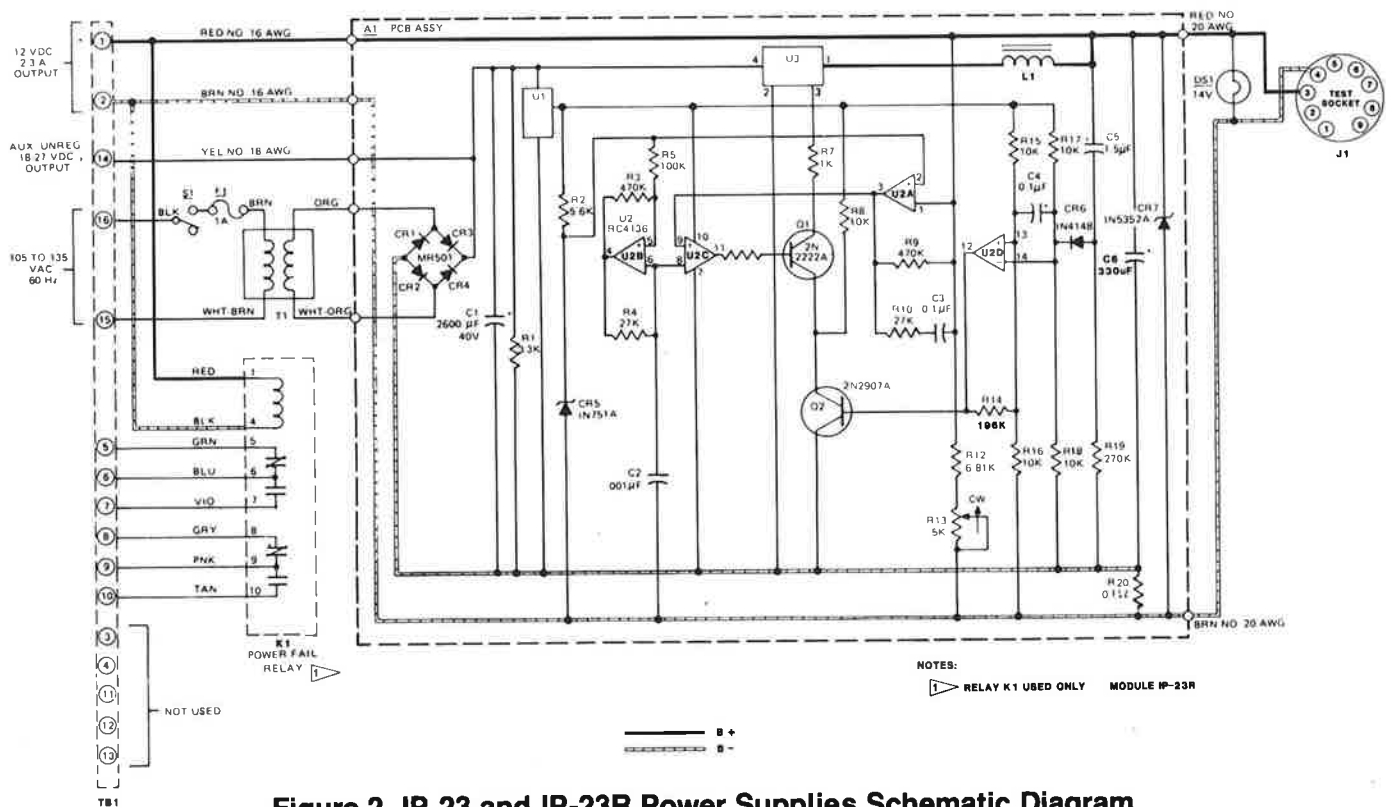

Figure 2. IP-23 and IP-23R Power Supplies Schematic Diagram
- (1) Leave terminal block mounted, as shipped, on rear of each unit.
- (2) Remove mounting screws from terminal blocks.
- (3) Insert power supply into tone frame and secure with knurled retaining screw on front panel.
- (4) Install and tighten mounting screws that hold terminal block to mounting frame.
- (5) Power supply can now be removed, if desired.
- (6) Connect power supply as shown in Figure 2.
3. FUNCTIONAL DESCRIPTION (See Figure 2).
4.1 Trouble shooting of the IP-23/IP-23R Power Supply can be accomplished by using the functional description of the unit and the system schematic. (See Figure 2).